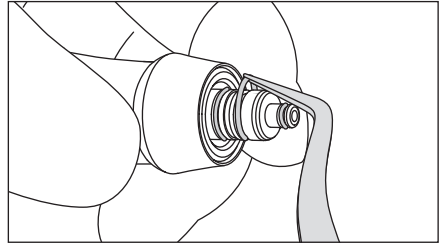

Fig. 18
*If powder adheres to the O-ring section, remove the O-rings, and carefully clean the O-rings and grooves. (Fig. 18)